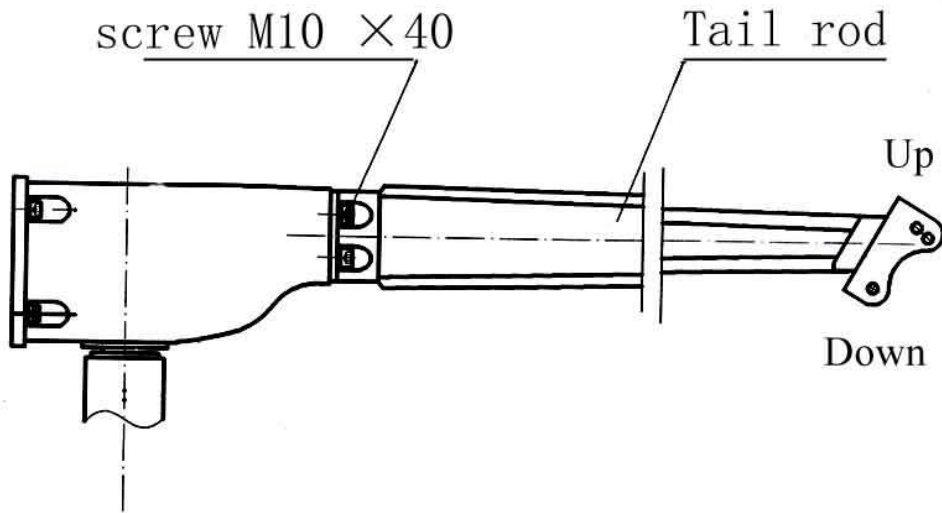

Fig. 5 Tail rod
- 4.6 According to the show on fig.5, assemble the tail rod to the rotor body, set the M10 holes correctly, insert the spring washer and screw on the four M10 \times 40 inner hexangular nuts tightly.